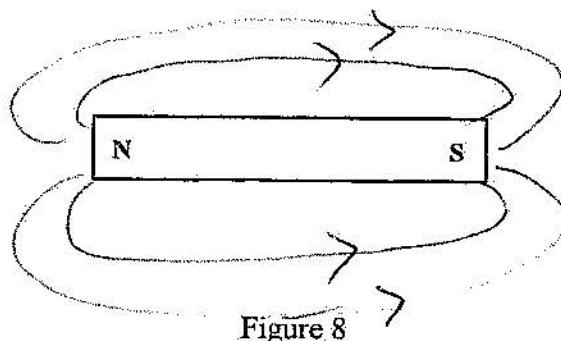

Figure 8
Figure 8 shows the map of the field of a bar magnet and if it is examined carefully it will be noticed the lines of magnetic flux appear to come from, or crowd to, points near the ends of the magnet. These points are the poles, one a north pole and the other a south pole.
- Place a steel ring against any pole of one of the rectangular bar magnets, then drop a drawing pin into the centre of the ring as shown in figure 8.